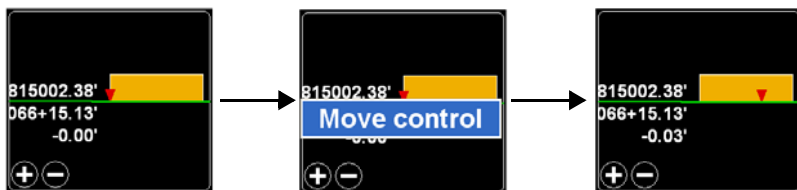

Figure 5-18. Move Blade Control Point Using Section View
- Press and hold a point on the blade for one second. On the pop-up menu, tap **Move control**. Figure 5-18 illustrates this process.